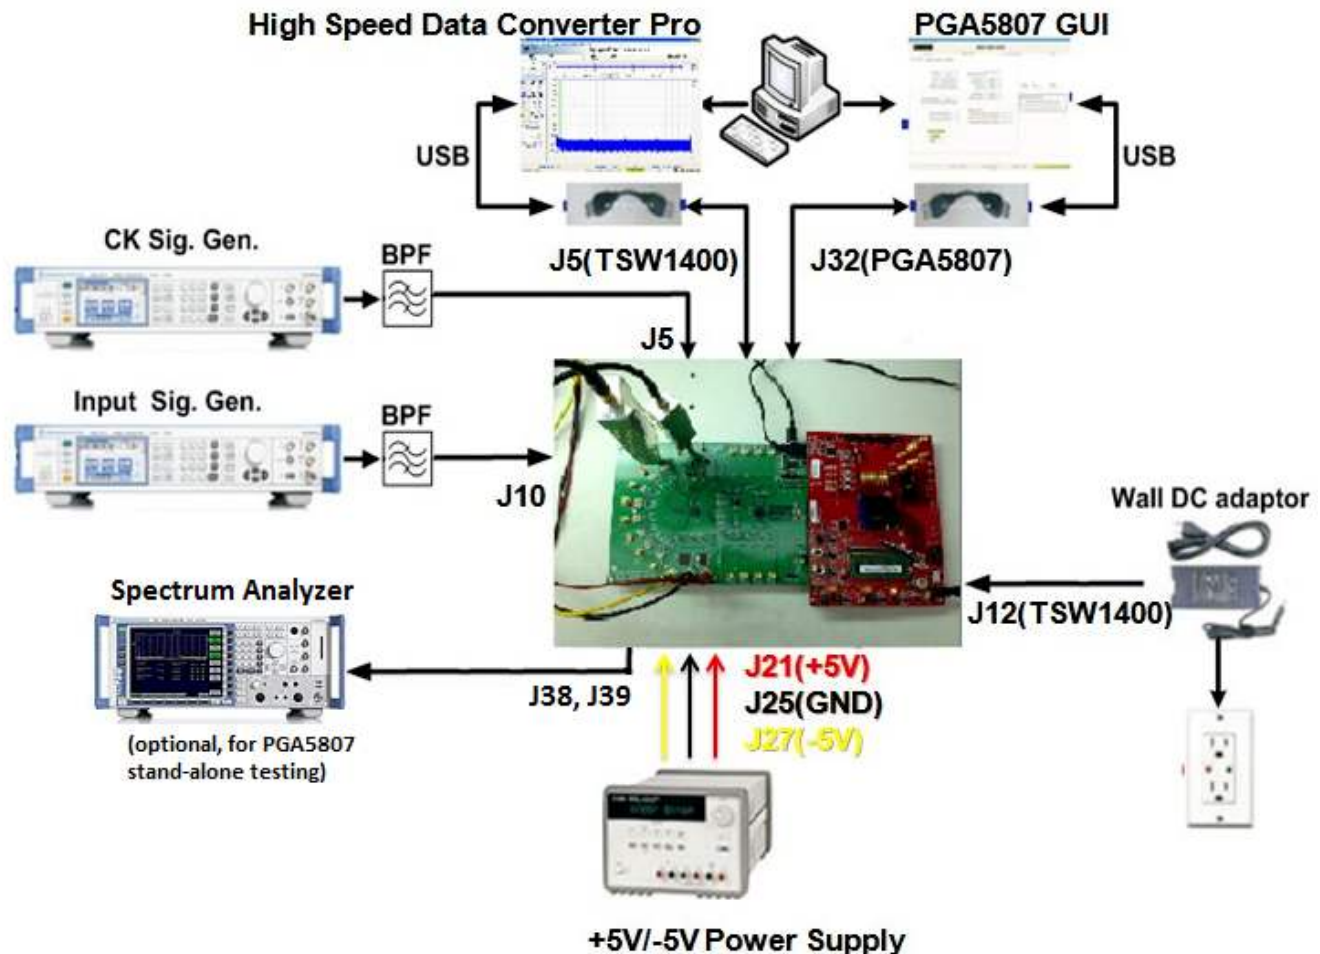

Figure 1. Evaluation Setup
Figure 1 is an overview of the evaluation setup that includes the PGA5807A EVM, TSW1400 data capturing card, external equipment, personal computer (PC), and software requirements.